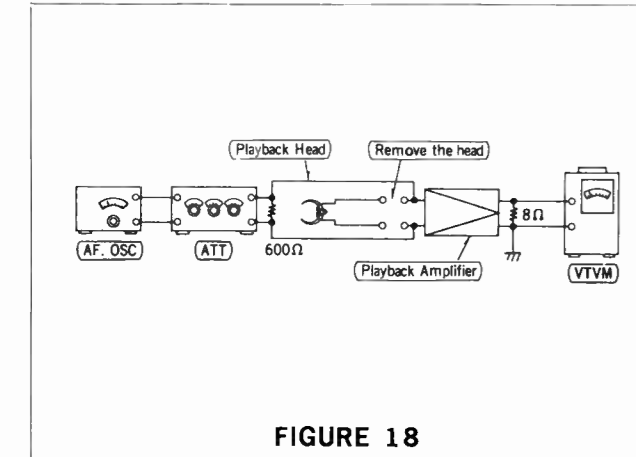

FIGURE 18
- b. Supply the input signal of 1 kHz, -80 ± 2 db to head lead wire as shown in figure 18.